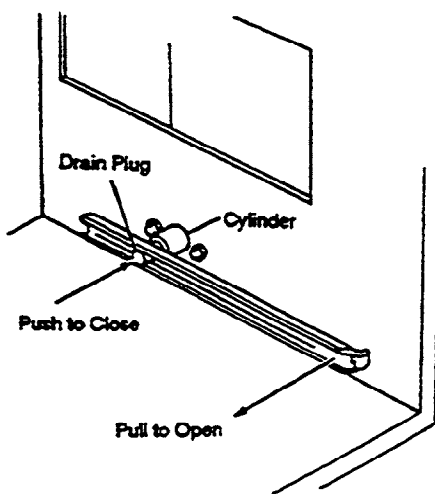

Figure 2-17. Drain Lever and Plug
5. Refer to Figure 2-17; check that the drain lever is positioned in the drain closed position and that the drain plug is inserted in the cylinder opening. When the plug is inserted (closed), the O-ring rests against the edge of the cylinder.